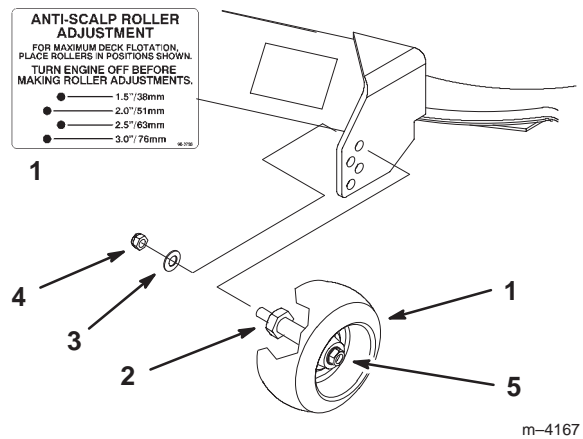

Figure 19
2. After adjusting height-of-cut remove nut and washer while holding stud with wrench (Fig. 19).
Note: Do not remove the wheel nut and washer (Fig. 19).
3. Select hole so gage wheel is positioned to the nearest corresponding height-of-cut desired (Fig. 19).
4. Reinstall the flange nut and spring disk. Torque to 40–45 ft-lb (54.2–61.0 N•m) (Fig. 19).